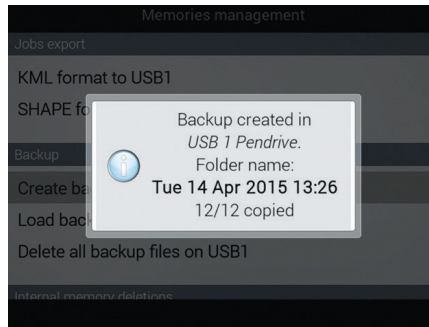

Fig. 284
- A confirmation message (Fig. 284) is displayed once the process is completed. Press **ESC**.
- Select **Delete all backup files on USB1** (Fig. 284) and press **OK**.